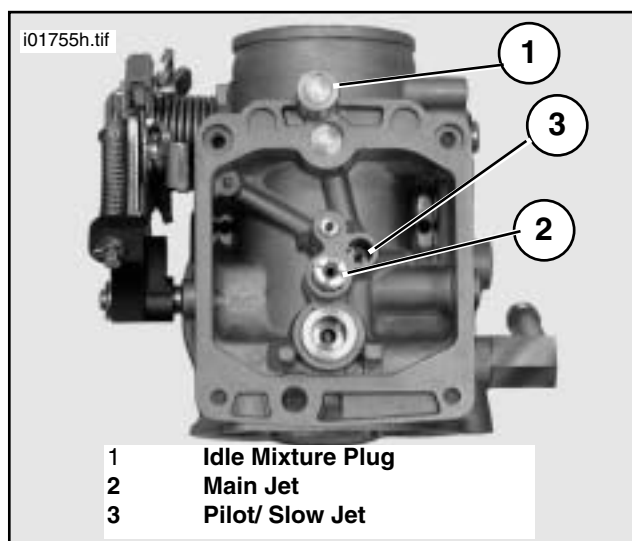

Figure 3. Idle Mixture Plug Location
3. See Figure 3 and Service Parts Illustration. Locate the Idle mixture plug (1). If you see a Idle mixture screw head not plugged, proceed directly to the adjusting procedure. With the plug drill bit (13) provided, carefully drill through the the plug. Use the screw (14) provided to secure and remove the plug.